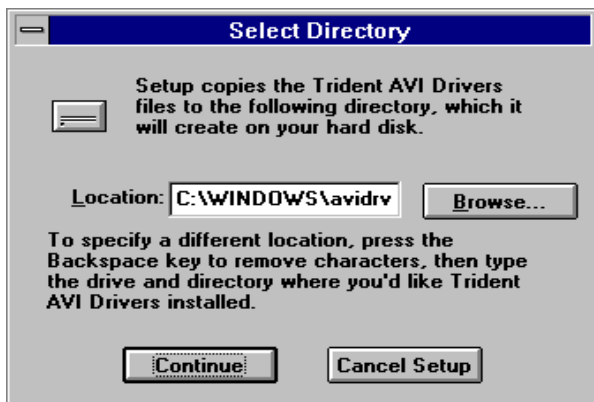

Figure 3-16.
6. The next screen will place Trident AVI Drivers in the directory “C:\WINDOWS\AVIDRV”. Change the path only if another directory is desired (see Figure 3-16). Click on “Continue” to complete the installation process of Trident AVI Drivers.